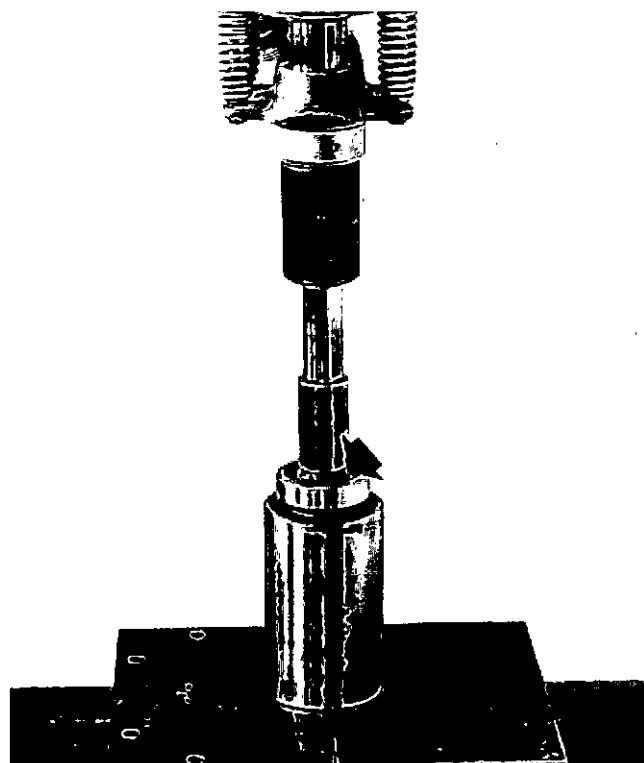

Fig. 8-25 (N10868). Install The Shaft Into The Bearing.
1. Apply a thin coat of clean lubricating oil to the shaft (19, Fig. 8-15). Use the Part No. ST-658 Bearing Mandrel to support the smaller bearing (18). Push the impeller end of the shaft into the bearing until the bearing is against the larger diameter (shoulder) of the shaft as shown in Fig. 8-25.
2. Use the Part No. 3375318 Bearing Mandrel to support the outer bearing (20). Push the pulley